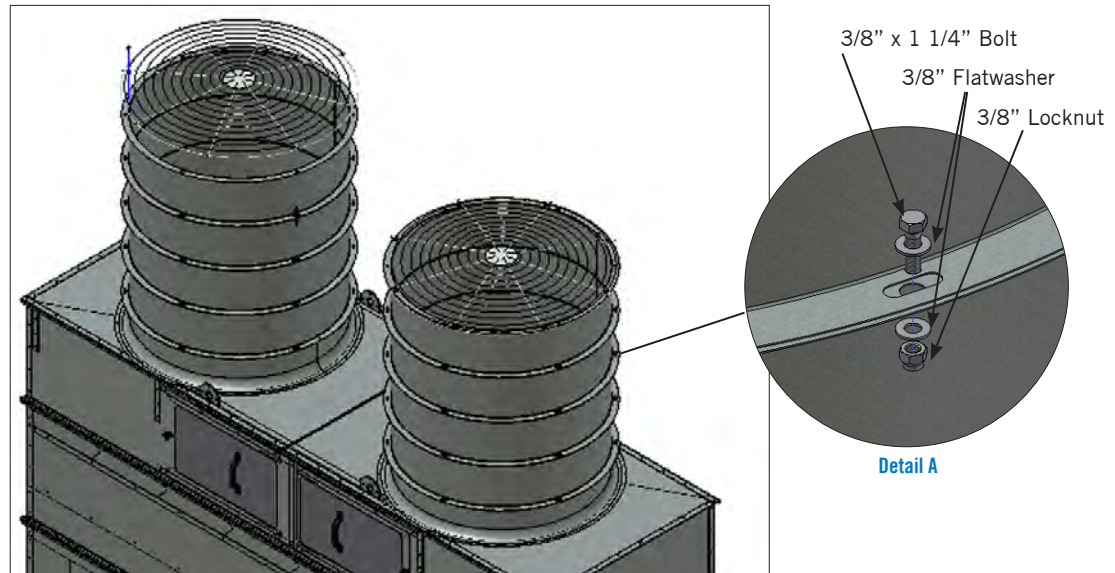

Figure 27. Fan Cowl Extensions
1. Fasten the fan cowl extensions through the large diameter pre-punched holes using the provided hardware as shown in **Figure 27, Detail A**.